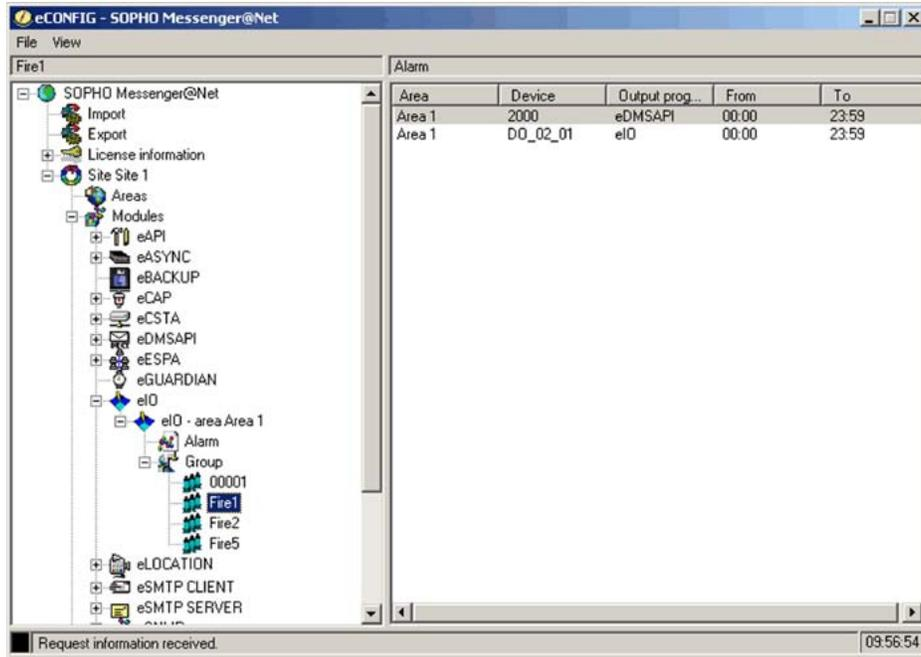

Figure 26: Groups in an input module
Under the eIO Module in the eCONFIG, two menus appear: Alarm and Group. Under the Group menu, the groups that are specified in the eKERNEL for that input module are displayed, as shown in Figure 26: Groups in an input module on page 102.
A Group name must match a Group name that comes from the input module. In this example, the Group name (Fire1) must match the Group name that is assigned to the input contact (01) in Figure 26: Groups in an input module on page 102. Under the Group name Fire1, two Members are listed, which are actual output Devices (Device 2000 and Device DO_02_01).